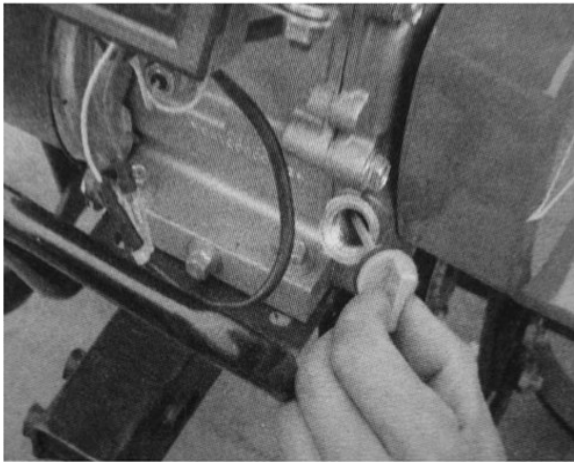

Figure 3
- Screw out the oil dipstick of the engine and clean it by wiping it (See Fig.3)